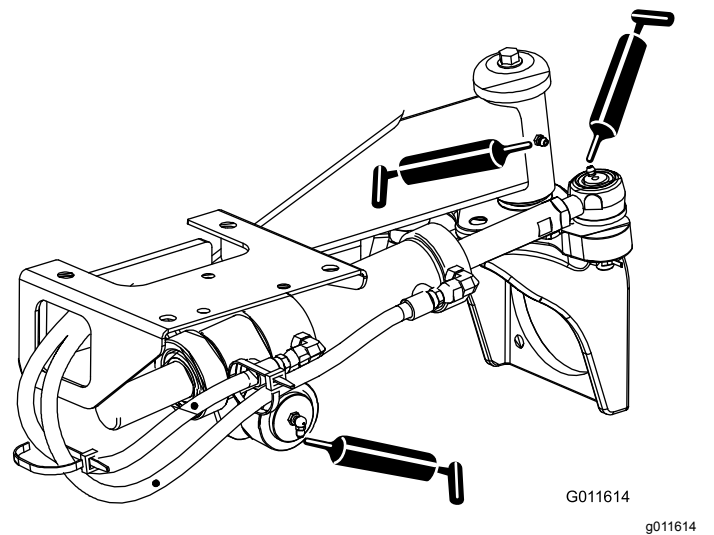

Figure 49
- Steering cylinder ball joints (2) and rear axle (1) (Figure 49)